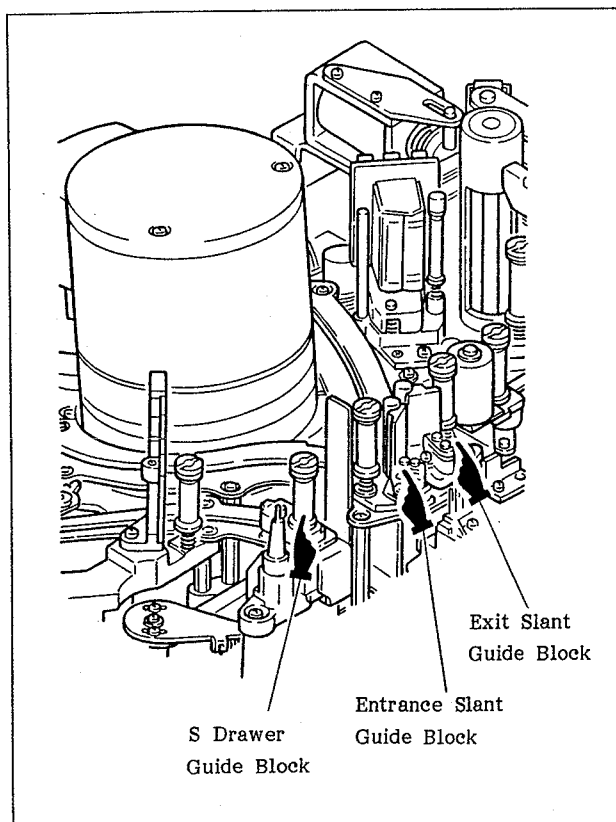

Fig. 5-7 Slider Guide Blocks
- A. If there is dust on the slide surfaces of the S drawer block, the entrance slant guide block, and the exit slant guide block, marked by shown in Fig. 5-7, the guide blocks may not move smoothly and positioning errors may occur. Clean the slider guide blocks by the following procedure.